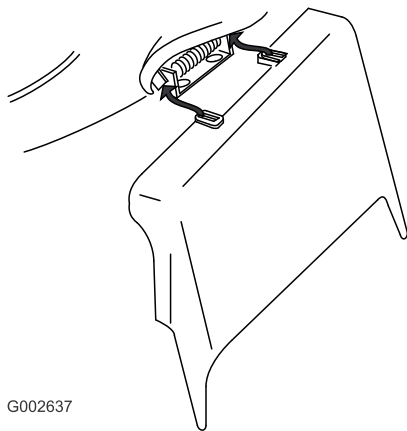

Figure 35
3. Install the side-discharge chute and close the door onto the chute (Figure 35).